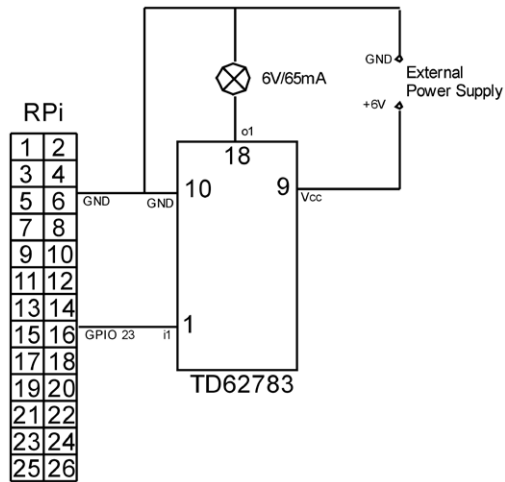

Figure 6.3. Connection of the TD62783 to the header.
We start with a simple circuit where we connect a 6 V, 65 mA light. You can see that the TD62783 is connected to GPIO 23 (pin 16 on the header). The ground of the Raspberry Pi and the adjustable power supply are connected together. The +3.3 V and +6 V obviously aren't. As shown in Figure 6.3, the +3.3 V of the Raspberry Pi isn't used at all since the TD62783 is powered through the V_{CC} pin (9), which is connected to the adjustable power supply.